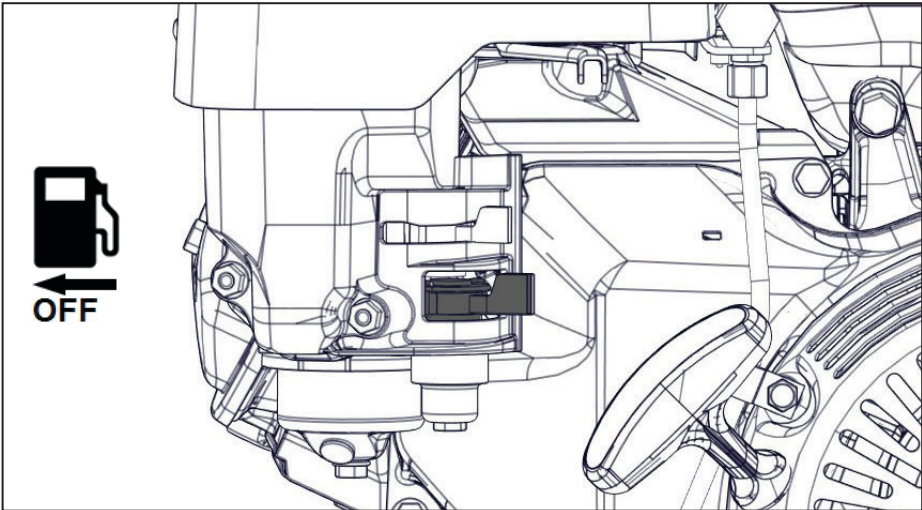

Figure 21 — Shut off fuel
- 5) Move the fuel shut off valve all the way to the left to shut off the fuel (Figure 21)